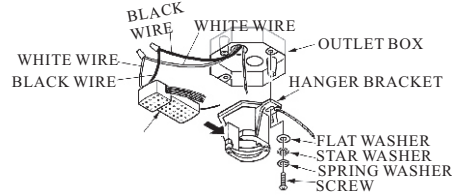

FIG.5
1. Securely attach the hanger bracket to the outlet box by washers and screws supplied.Connect white wire from ceiling to white wire from receiver with wire nut. Connect black wire from ceiling to black wire from receiver with wire nut. (See fig.5)
2. Carefully lift the fan and seat the down rod ball assembly on the hanger bracket. Be sure the groove in the ball is lined up with tab on the hanger bracket .Do not pinch wires between the ball and down rod assembly and hanger bracket .(See fig.5)